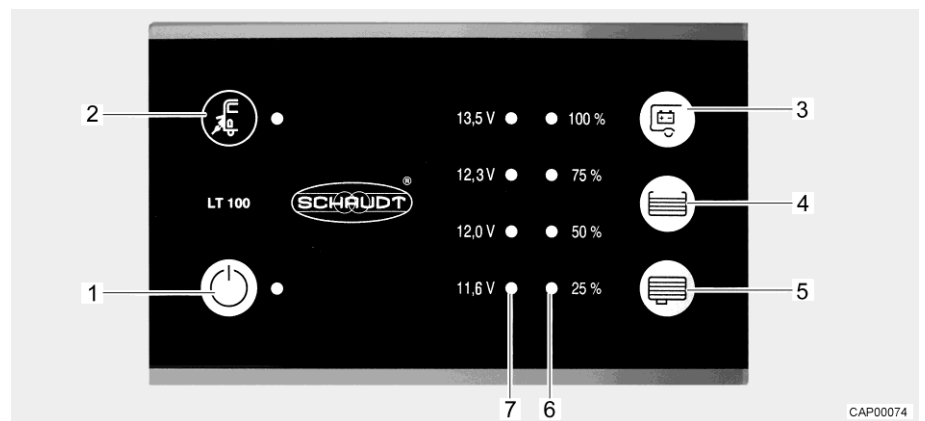

Fig. 70 Panel (LT 100)
The yellow LED at the mains connection symbol " (Fig. 70,2) is lit when the vehicle is connected to an external mains supply. In this case, the LED will also be lit when the panel is switched off.
The 12 V main switch (Fig. 70,1) switches the panel and the 12 V power supply of the living area on and off.
- Press switch " (Fig. 70,1): The 12 V living area power supply is switched on. The LED lights up green.
- Press switch " (Fig. 70,1) again: The 12 V living area power supply is switched off. The LED goes out.
The LED array (Fig. 70,7) displays the battery voltage of the living area battery as follows:
- Press the button " (Fig. 70,3): The battery voltage of the living area battery is displayed.
The LED array (Fig. 70,6) displays the fill level of the fresh water tank or of the waste water tank.
Display fill level: Press the button " (Fig. 70,4): The fill level of the fresh water tank is displayed by lit LEDs.
Press the button " (Fig. 70,5): The fill level of the waste water tank is displayed by lit LEDs.